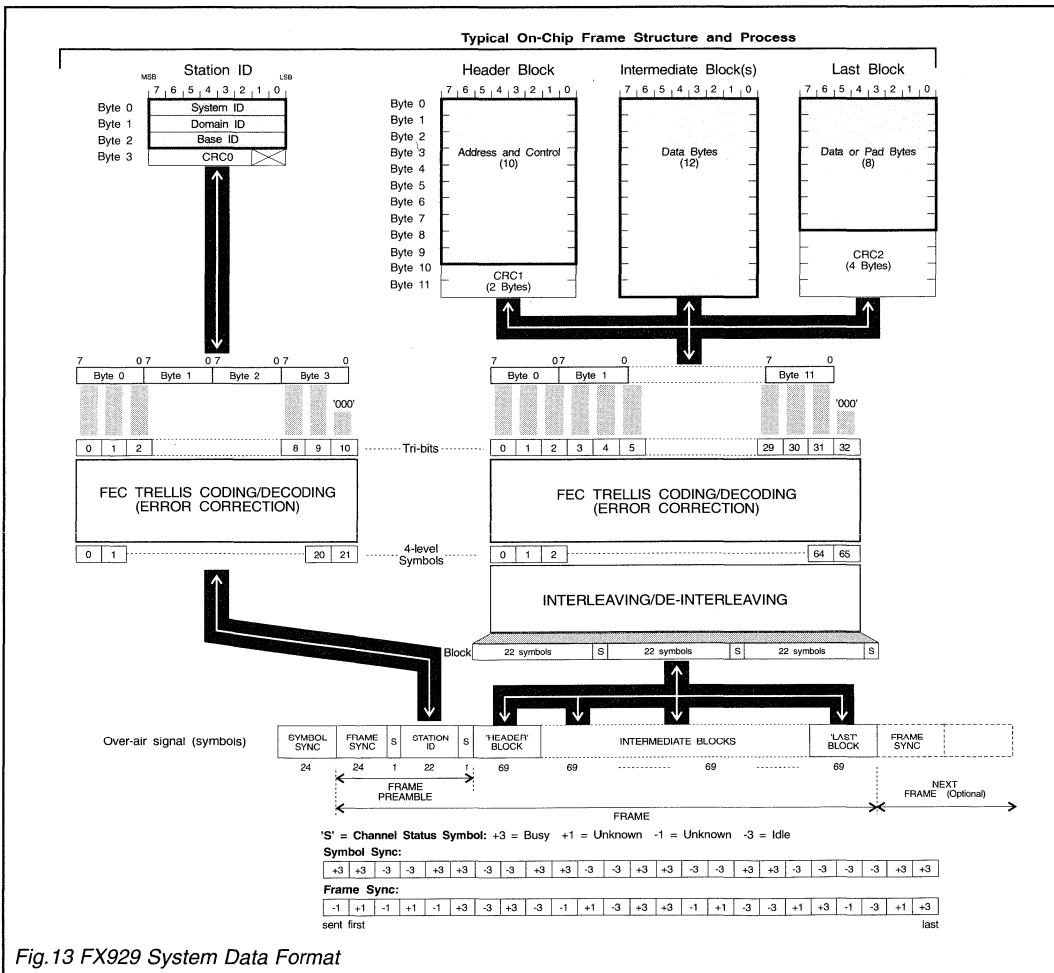

Fig. 13 FX929 System Data Format
The FX929 Frame structure is illustrated in Figure 13, and consists of a Frame Preamble (comprising a 24-symbol Frame Synchronization pattern and Station ID block), followed by a 'Header Block', one or more 'Intermediate Blocks' and a 'Last Block'. Channel Status (S) symbols are included at regular intervals. The first Frame of any transmission is preceded by a Symbol Synchronization pattern.
The FX929 performs all the necessary block formatting and de-formatting, the binary data transferred between the modem and its  $\mu$ Controller being that shown in the shaded areas of Figure 13.
In general, data is transmitted over-air in the form of messages, or 'Frames', consisting of a 'Frame Preamble' followed by one or more formatted data blocks. The Frame Preamble includes a Frame Synchronisation pattern designed to allow the receiving modem to identify the start of a frame. The following data blocks are constructed from the 'raw' data using a combination of CRC (cyclic redundancy checksum) generation, Forward Error Correction coding and Interleaving. Details of the message format handled by this modem are shown in Figure 13.